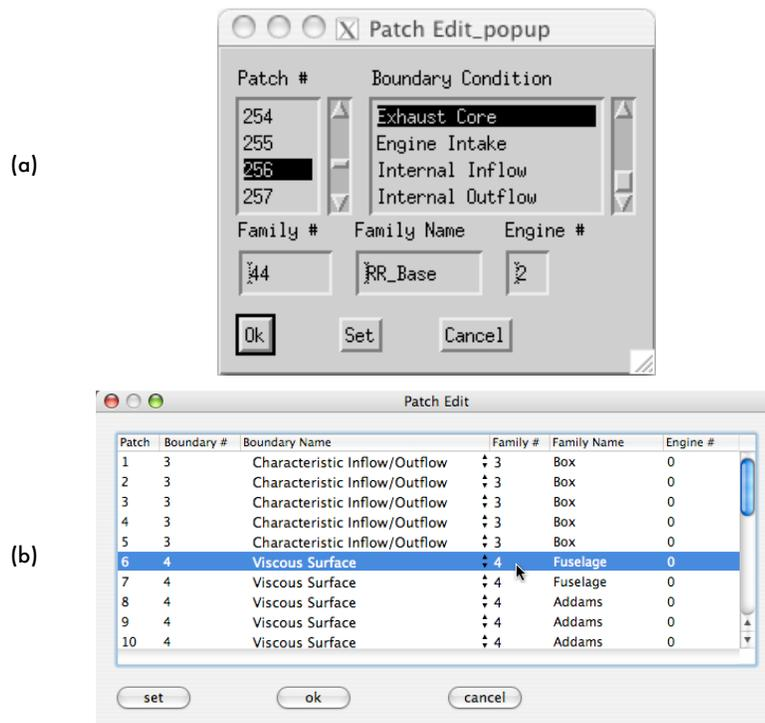
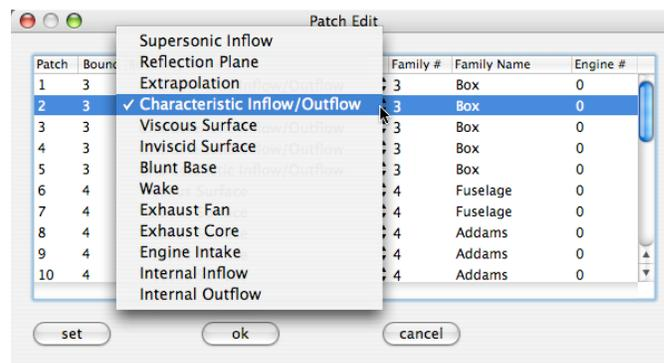

Figure 2.3.6 The Patch Edit Dialog in (a)the Linux Variant, and (b) the Mac variant
Figure 2.3.7 Boundary Condition Selector in the Mac variant
Displaying the boundary conditions on each patch allows you to perform a rapid visual check to ensure that the appropriate boundary conditions are associated with each surface patch before running USM3D. Then, if you realize that an incorrect boundary condition has been associated with a particular surface patch, you can change the boundary condition from within SimpleView using the “Edit Patch Information” function. Selecting “Edit Patch Information” from the Edit menu will open the Patch Edit dialog box, examples of which are shown in Figure 2.3.6.
3. Select the “Edit Patch Information” option from the Edit panel. The patch number corresponding to the patch on which you just selected will automatically be displayed and highlighted in the list, as shown in Figure 2.3.6. In the Linux variant, you need to scroll down the list of boundary conditions until you locate the one that is currently associated with that patch. In the Mac variant, the boundary condition currently associated with the selected patch is shown on the same line as the highlighted patch. You then select the appropriate boundary condition : in the Linux variant, this is done by clicking on the appropriate entry in the list of boundary conditions; in the Mac variant, you click on the disclosure triangles next to the boundary condition name, and select the appropriate entry, as shown in Figure 2.3.7.
Note that in the Mac variant, the currently assigned boundary condition will have a check mark next to it (as shown in Figure 2.3.7).
SimpleView can display a mirror image of the configuration (i.e., the surface patches, surface grid and volume grid cuts, as well as any flow solution-related objects), mirrored about the patch set to the “reflection plane” boundary condition. **SimpleView** assumes that the patch associated with the “reflection plane” boundary condition is an x, y, or z-constant plane containing/passing through the origin (0,0,0). To activate mirroring, you can hit the “Mirror Grid” hotkey (“M” by default) to toggle the display of the mirrored objects This is illustrated in Figure 2.3.7.